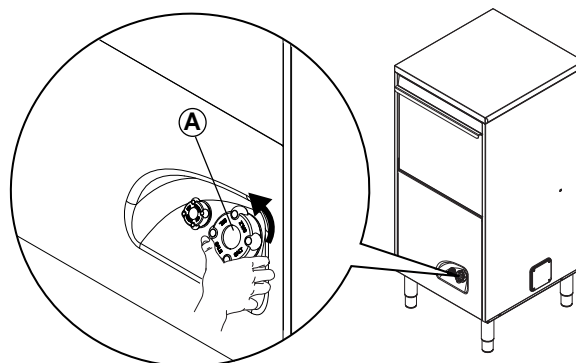

Fig. 23
- Unscrew cap "A" (Fig. 23) of the salt container, turning it anticlockwise.